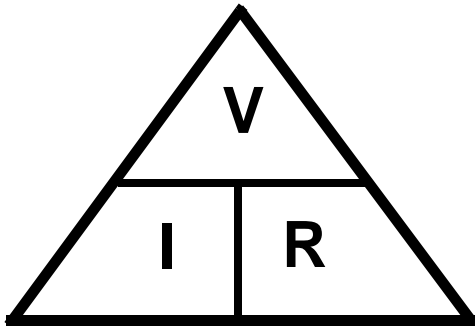

Figure 7.35
- Those who were traumatized by algebra can represent Ohm's law as a triangle. When using the triangle, cover the value to be found, and the two values left exposed signify how to obtain that value. See Figure 7.35.